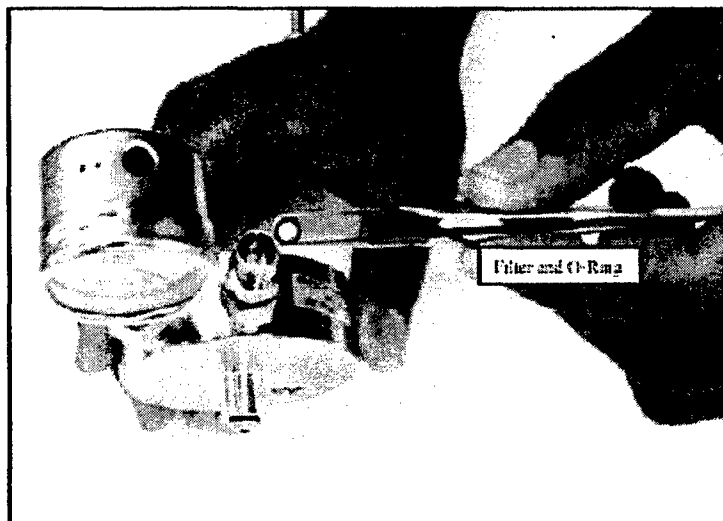

Figure 6-4-2 Installation of frit filter and O-ring into flow controller
3. Replace the frit filter and O-ring with new ones using a pair of clean tweezers to prevent contamination. Do not handle the filter or O-ring with bare hands. The frit filter is installed first, then the O-ring (Figure 6-4.2).